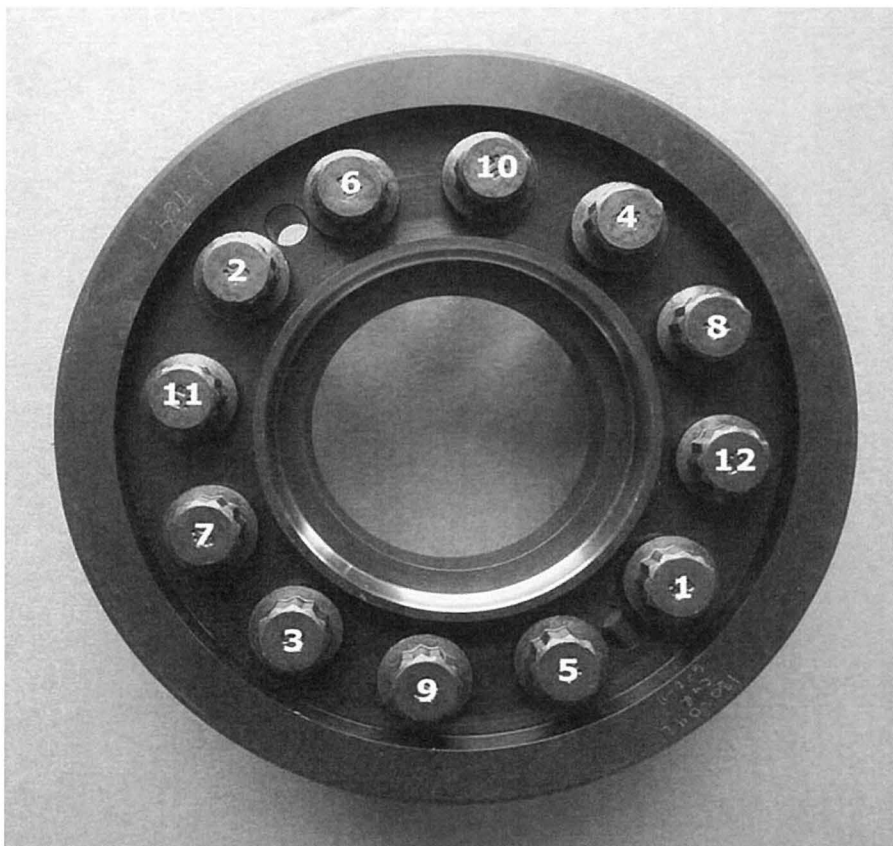

FIGURE 6
16. Initially torque all bolts to 120 ft. lbs. using torque sequence shown in (Figure 6, PAGE 13). **Remember to rotate wheel to align rollers in bearings as bolts are torqued.** Now continue torquing all bolts in 40 ft. lbs. increments to final 280 ft. lbs. (+28/-0) using torque sequence shown. Retorque until bolts no longer move at specified torque.